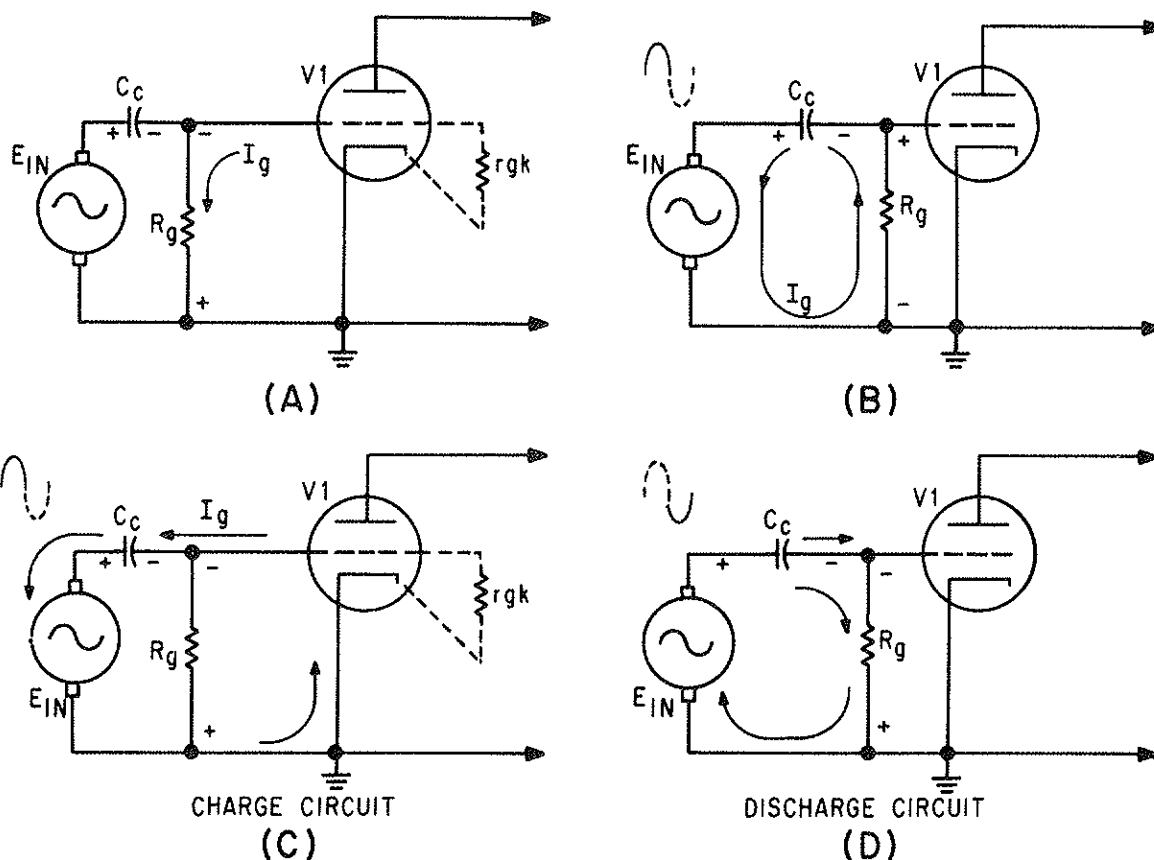

Figure 1-25.—Shunt grid-leak biasing.
input signal to draw grid current through a circuit made up of a resistor and capacitor. There are two types of grid-leak bias commonly in use: SHUNT TYPE and SERIES TYPE. Because shunt type grid-leak biasing is the simplest, it will be discussed first. Figure 1-25 depicts a simplified triode circuit employing the shunt type of grid-leak biasing. Before starting the explanation of shunt grid-leak biasing, there is one thing you should bear in mind. Because the bias is derived from the positive input signal through capacitive action, the input signal must go through several positive alternations before the final operating bias voltage is achieved. It is only necessary that you bear this fact in mind. Why this is so, will be explained in the following discussion.
View (A) of figure 1-25 shows the circuit under quiescent conditions. You will notice that